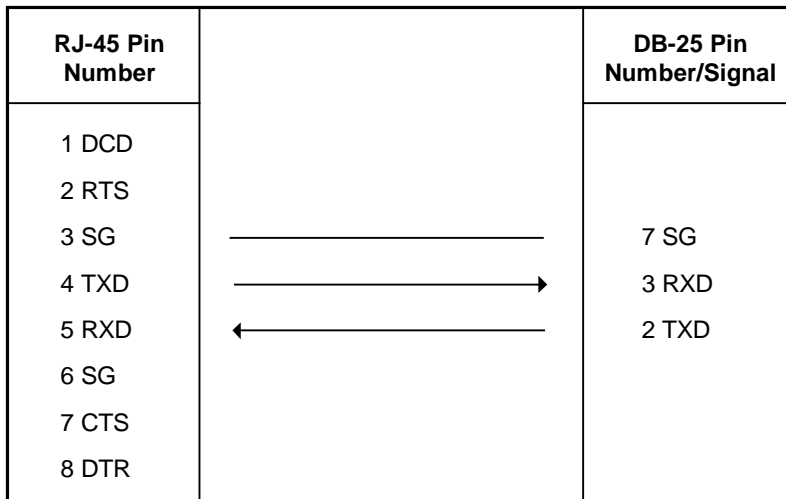
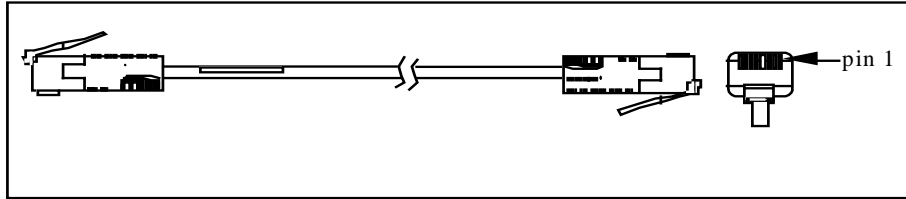
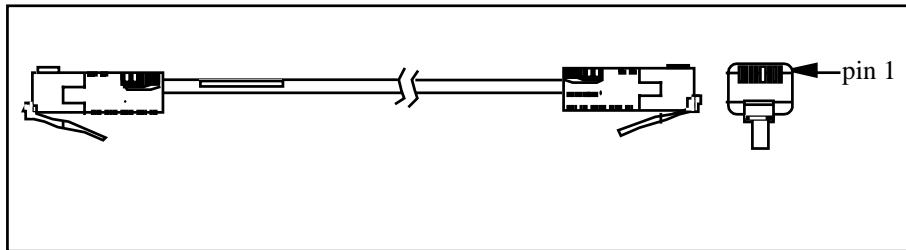

Figure 2-6: RJ-45 to DB-25 3-Wire Terminal Cable
Figure 2-7: RJ-45 to RJ-45 Straight-through Cable
Figure 2-8: RJ-45 to RJ-45 Crossover Cable
To connect your EIA-232 device to the serial port of an NDS/5000, you need to determine whether the device connector wiring follows the standard for data terminal equipment (DTE) or for data communication equipment (DCE). In general, modems are wired as DCE devices and all other devices are wired as DTE; however, some equipment manufacturers may deviate from the standard. The manual for your device will contain information on the pinouts for the device. Figure 2-2 through Figure 2-5 show cable diagrams for the most common configurations. Figure 2-6 shows a minimal cable using 3 wires.
carrier detect signal (CD) on and off in response to making and breaking telephone connections. This insures that the NDS/5000 terminates users' sessions when they disconnect. Figure 2-6 shows a 3-wire cable.
The NDS/5000 does not require the use of all 8 wires. Only the RX, TX, and GND signals are essential. DTR/DSR and RTS/CTS are only necessary for flow control. DCD (pin 1) is normally not required. Figure 2-6 shows a minimal 3-wire cable using only RX (pin 5, data in), TX (pin 4, data out), and GND (pin 3, ground).
RJ-45 to DB-25 or DB-9 adapters may be used with RJ-45 cables to create the cable configurations shown in Figure 2-2 through Figure 2-6. In most cases, you use “straight through” RJ-45 cables. If you use “crossover” RJ-45 cables, the RJ-45 pins will be reversed. Figure 2-7 and Figure 2-8 illustrate the difference between the two types, when constructed with flat 8-conductor wire.